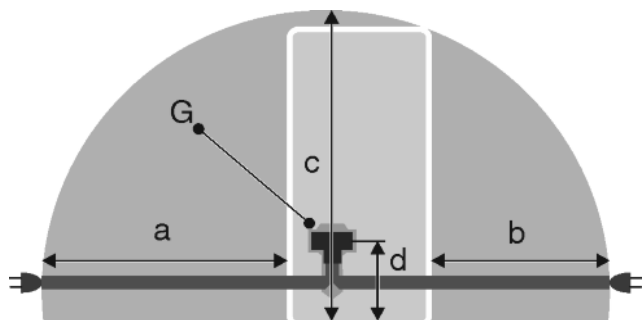

Fig. 20
- The socket lies behind the back of the appliance in the given area Fig. 20 (a, b, c).
- ▶ Insert the appliance plug Fig. 20 (G) on the rear side of the appliance. Ensure that it clicks into place.